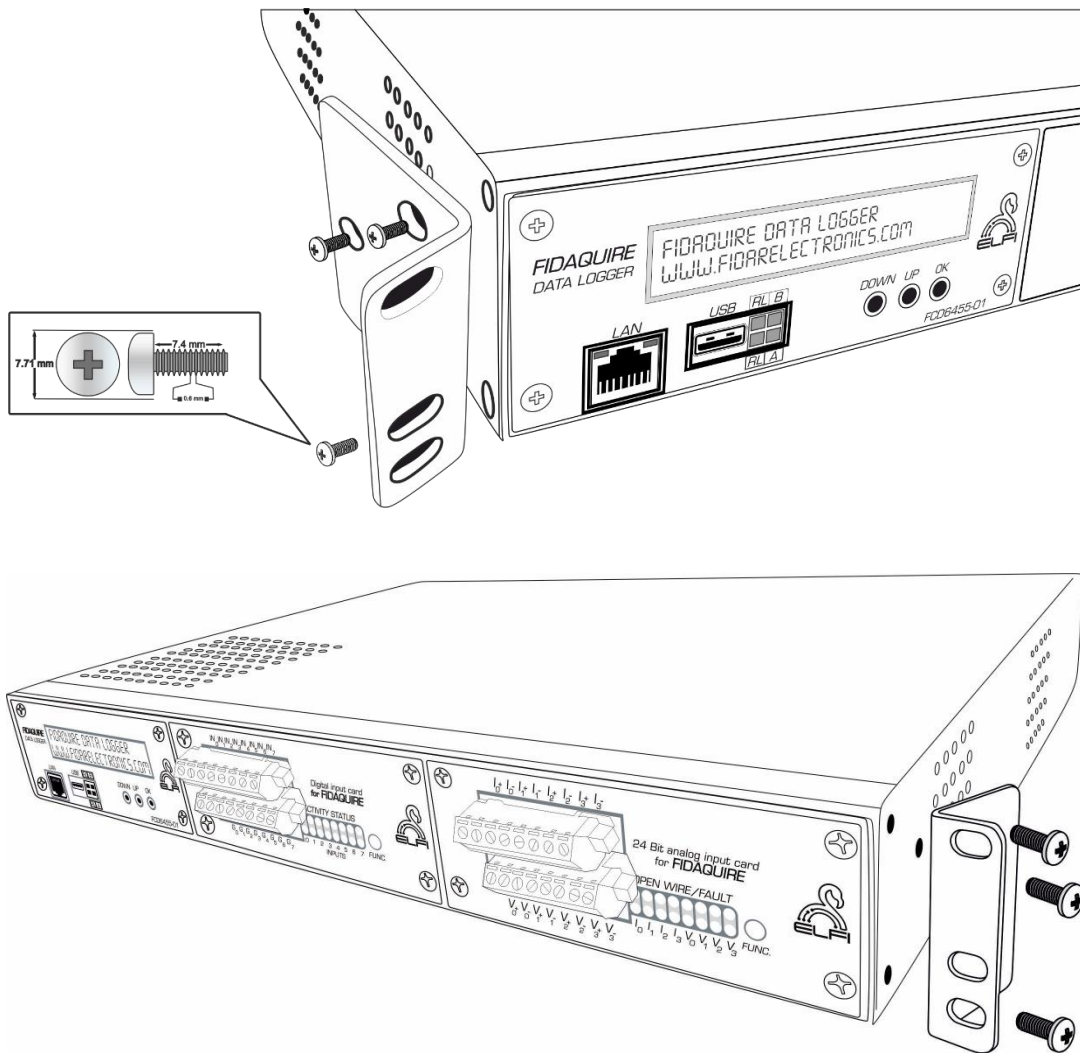

Figure 4: Installing clamps to the device
**Step 1:** First, attach the mounting brackets to the FIDAQUIRE data logger using the screws provided (Figure 4).